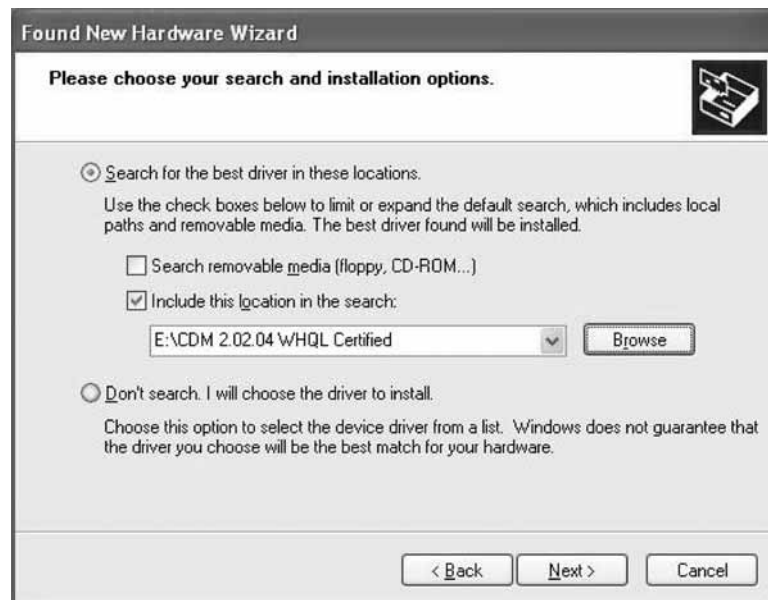

Figure 3-17. Driver Location
5. Browse to the location of the driver folder in the CDM 2.04.06 WHQL Certified, see Figure 3-17.